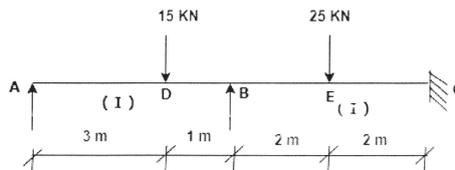

Figure 2
**b)** Analyze the beam shown in figure 2 by Slope Deflection Method. **[5]**